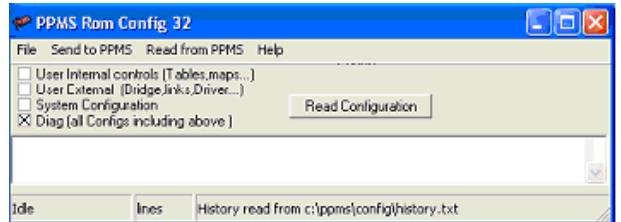

Figure 5. Using the Rom Config 32 dialog to upload *.cfg files from the Model 6000
2. In the top left of the **PPMS Rom Config 32** dialog (Figure 5), click in the bottom check box next to **Diag (all Configs including above)** to select it.